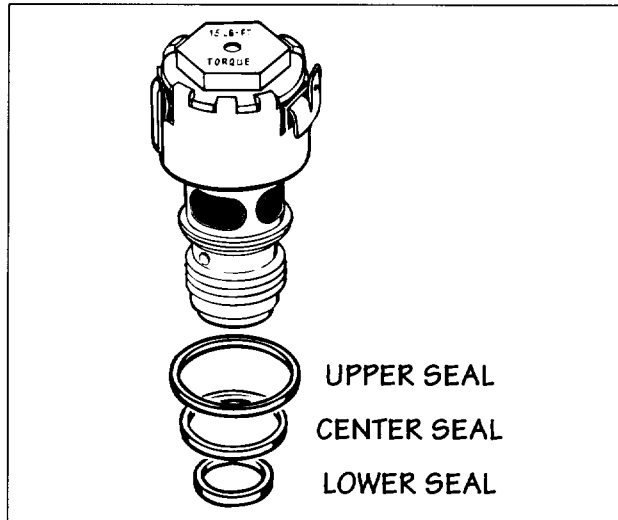

FIG. 18
2. Remove and discard the three rubber seal rings (Fig. 18). If the lower ring stays in the bottom of the housing solenoid bore, remove with a seal pick.